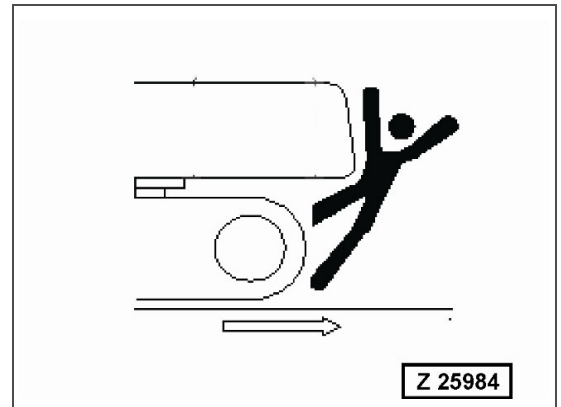

Fig. 3-22
- Before travelling, check again that there is no one in the surrounding area, and that there are no obstacles (Fig. 3-22).